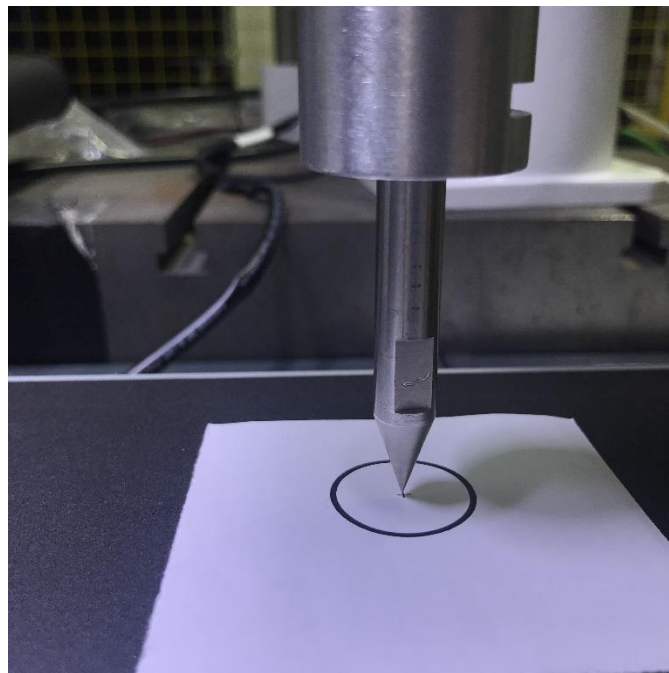

Figure 5.7 Conveyor calibration
- Step 3** Click  to enable the motor and jog the robot to the label position on the conveyor, and click **Get First Point** on the **First Point** section, as shown in Figure 5.7. We called this point as point A, which is the origin of the User coordinate system.